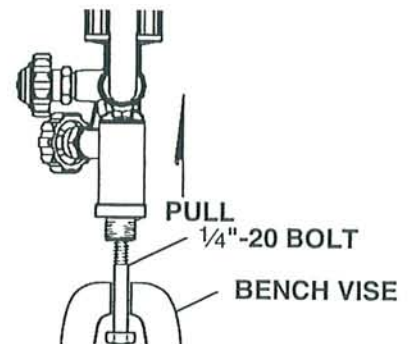

Figure 1: Removing the Internal Check Valves
2. Place the shank of the bolt in the vise. The head of the bolt must catch on the vise jaws. The bolt must move freely (see Figure 1).